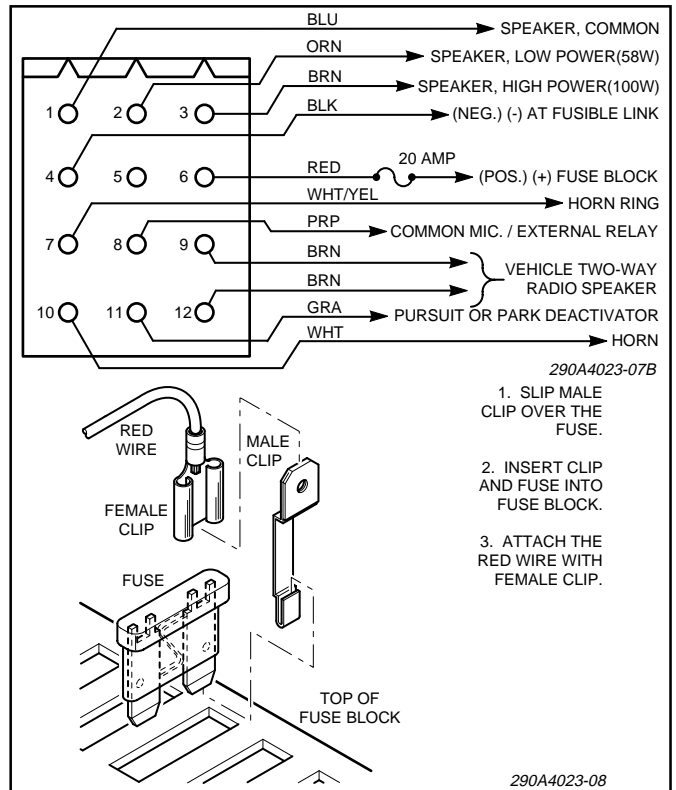

Figure 3-6. Amplifier Unit Power Cable and Fuse Clip Adapter Installation.
speaker leads marked "2" to the SPEAKER HI POWER or SPEAKER LO POWER power cable leads. See figure 3-6.
Using 18 gauge wire, connect the speaker leads (58W speakers to SPEAKER LO POWER or 100W speakers to SPEAKER HI POWER) as shown in Power Cable Wiring Diagram, figure 3-6.
See figure 3-6. To use this feature, connect the power cable’s gray wire to a vehicle circuit that is grounded when the vehicle is shifted into PARK.
c. See figure 3-6. Connect the other side of the switch to the power cable’s gray wire using #18AWG or larger wire.
#### 8. Connection to Power Source (see figure 3-6).
Route the red (+) power cable lead to the fuse block or user-supplied switch. When the red (+) power cable lead is routed to the fuse block, install the supplied fuse clip adapter as follows (see figure 3-6):